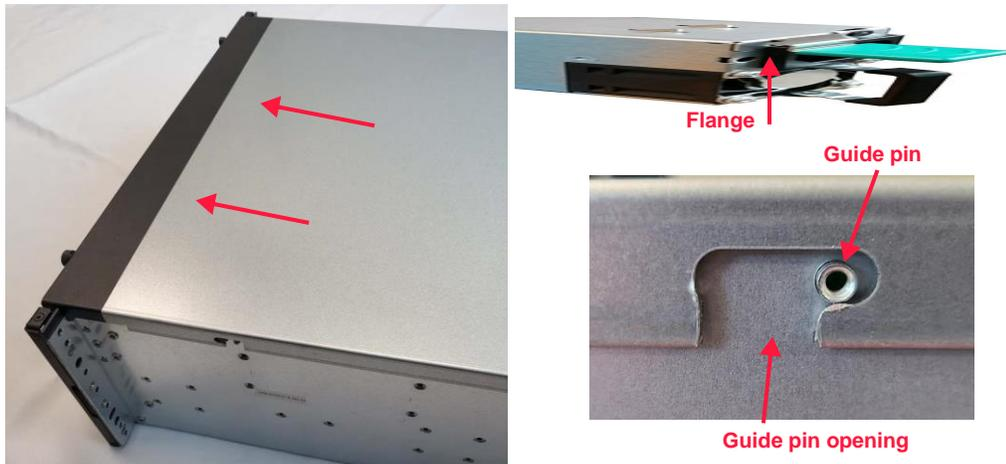

Figure 5.6 Top cover removal
3. Use both hands to apply a gentle downward pressure on the top cover, and then slide the cover forward enough to clear the flange at the rear of the enclosure. Align the six guide pins (three on each side of the chassis) with the guide pin openings (three on each side of the cover). Refer to Figure 5.6.
Return the top cover to the enclosure once the component's LED indication is identified (see Figure 5.6 on page 62).